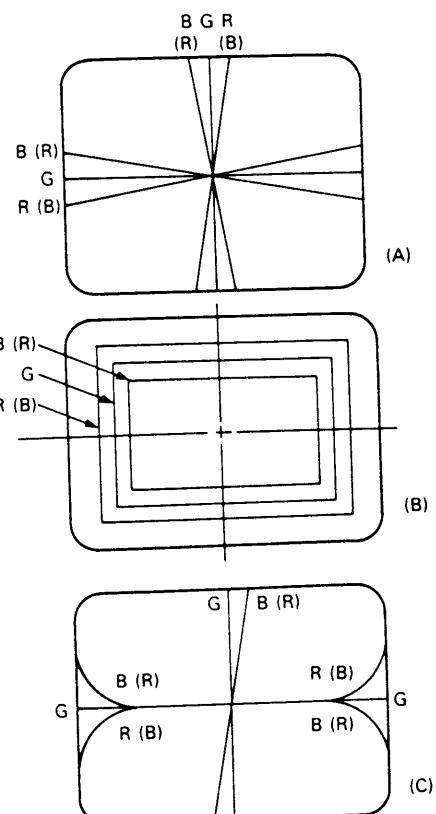

Fig. 9.
- (2) Observe the vertical lines at left and right centres of the screen as shown in Fig. 9 (B). If red or blue vertical lines are shifted against green vertical line, converge them by swinging yoke horizontally. Then confirm that the horizontal lines both at top and bottom centres of the screen are also converged.
- (3) The shift of beams as shown in Fig. 9 (C) can be converged by rotating the entire deflection yoke. The rotation of the yoke should be made in consideration of a point where raster rotation and convergence compromise.